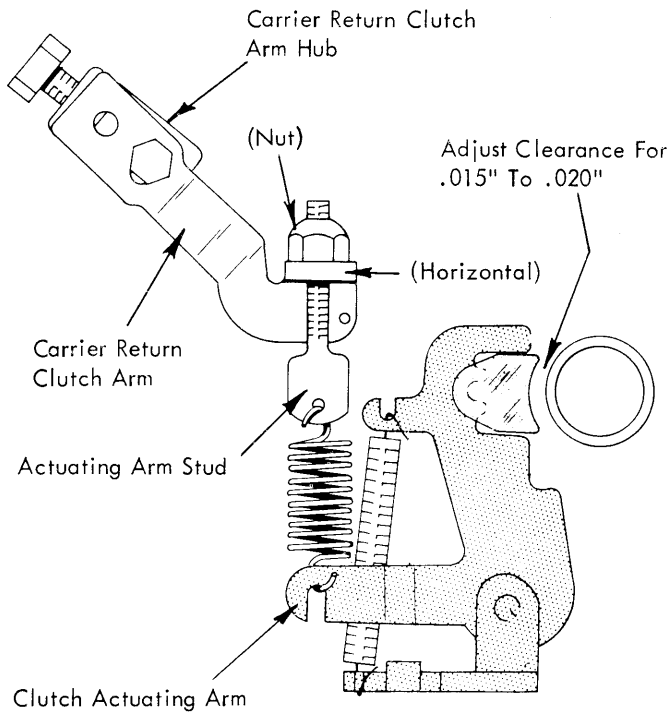

FIGURE 147. Carrier Return Actuating Arm Adjustment
5. Carrier Return Clutch Arm - Adjust the arm on the carrier return clutch arm hub so that the formed lug which mounts the actuating arm stud will be horizontal when the machine is at rest (Fig. 147).
6. Shoe Clearance - The nylon shoe on the clutch actuating arm should clear the carrier return clutch spring by .015" to .020" when the machine is at rest (Fig. 147). Adjust the self-locking nut on the actuating arm stud to obtain the proper clearance.